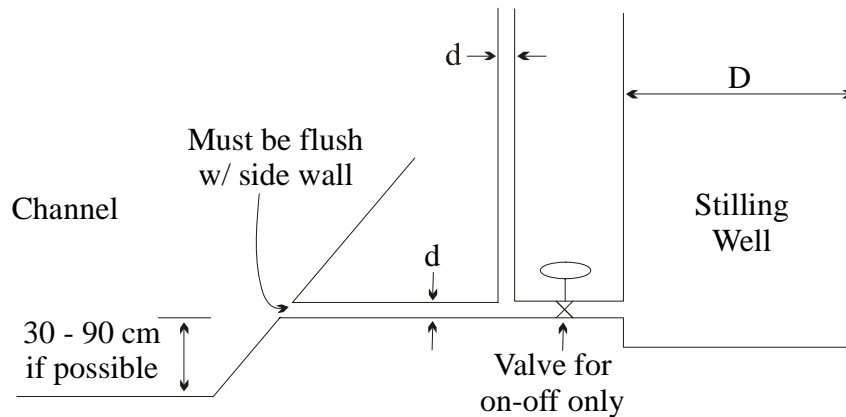

Figure 29. Proper installation of a stilling well with a flushout tube.
4. A 2-inch vertical flushout tube installed in the pipe connection makes maintenance easier. A valve in the access tube between the stilling well and the flushout tube can be closed and compressed air or pressurized water used to blow dirt out (Figure 29).